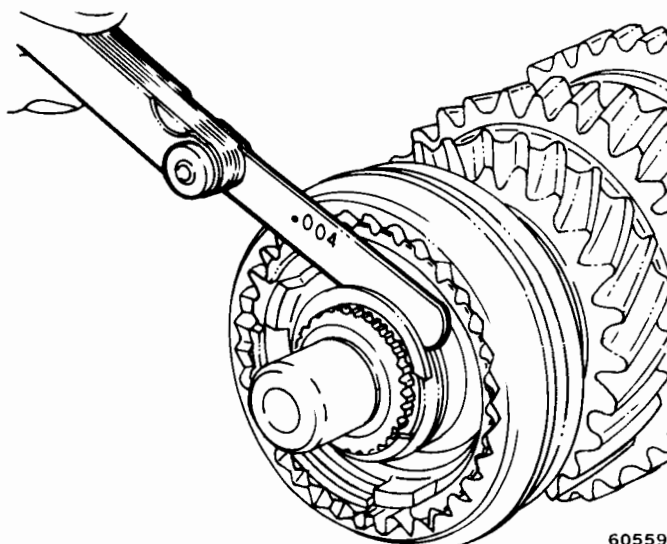

Fig. 6-14 Measuring Main Shaft End Play
(19) Install Second-Third synchronizer assembly on main shaft. Rotate Second gear until notches in blocking ring engage inserts in Second-Third synchronizer assembly.
(20) Install retaining snap ring on main shaft and measure end play between snap ring and Second-Third synchronizer hub with feeler gauge (fig. 6-14). End play should be 0.004 to 0.014 inch. If end play exceeds